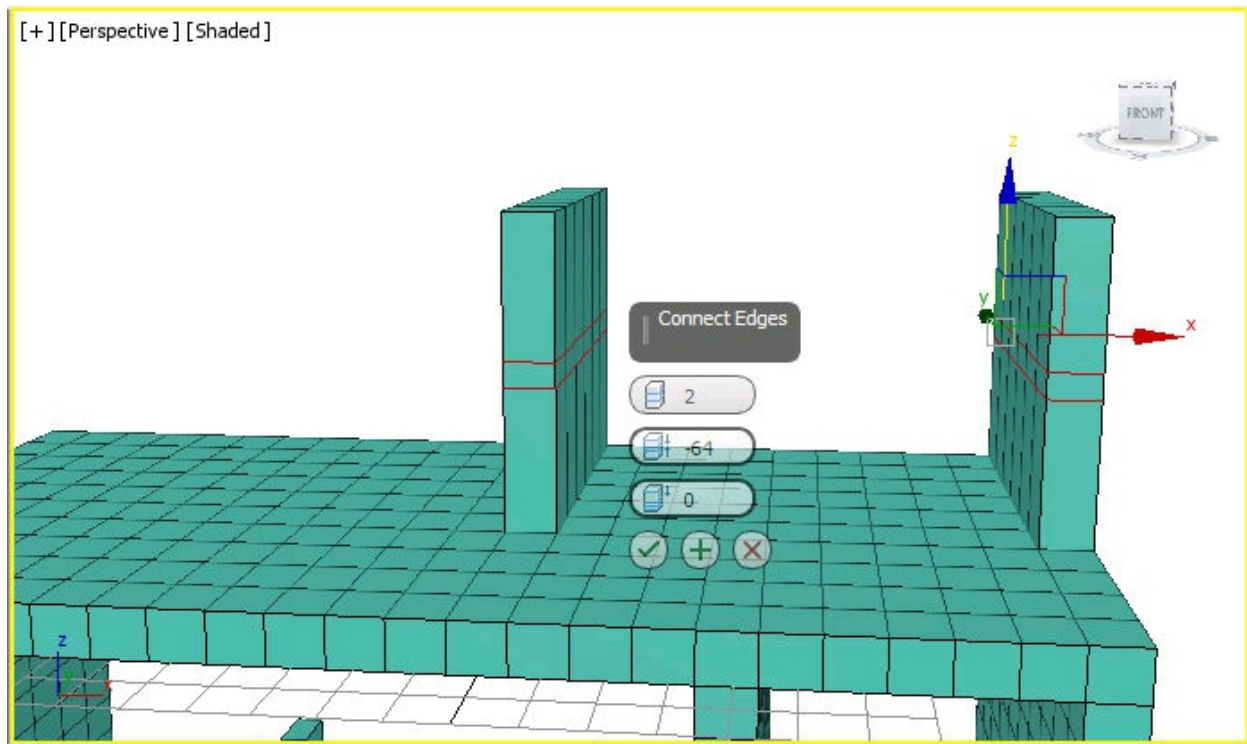

Figure 9-76 Added edges at the center of the extruded part
6. In the **Connect** caddy control, set the value **2** in the **Segments** spinner and **-64** in the **Pinch** spinner, refer to Figure 9-76 and choose the **OK** button; two edges are added at the center of the extruded part, as shown in Figure 9-76.